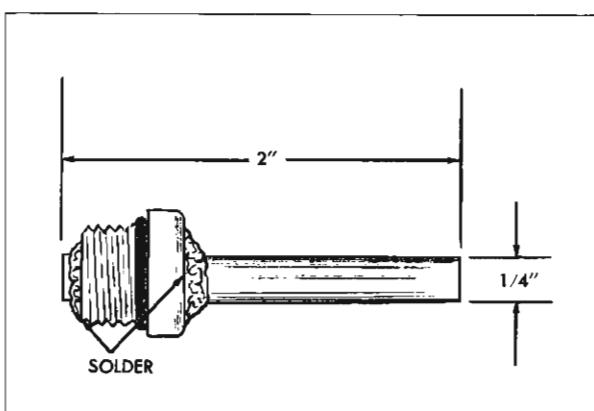

Fig. 21-71 Filler Plug Adapter
b. Install 2 inch length of metal tubing ($\frac{1}{4}$ " O.D. x $\frac{3}{16}$ " I.D.) into center of filler plug and solder tubing on both sides of filler plug to form air tight connection (Fig. 21-71).